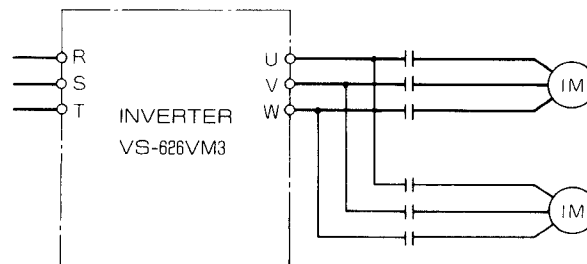

Fig. 4.18 Connection for Switching Motors
- (11) To switch two or more motors by making or breaking of a magnetic contactor between the inverter and the motor as shown in Fig. 4.18, the circuit must be opened or closed when the motor stops and there is no current. To switch the motor, the encoder signal must also be switched.